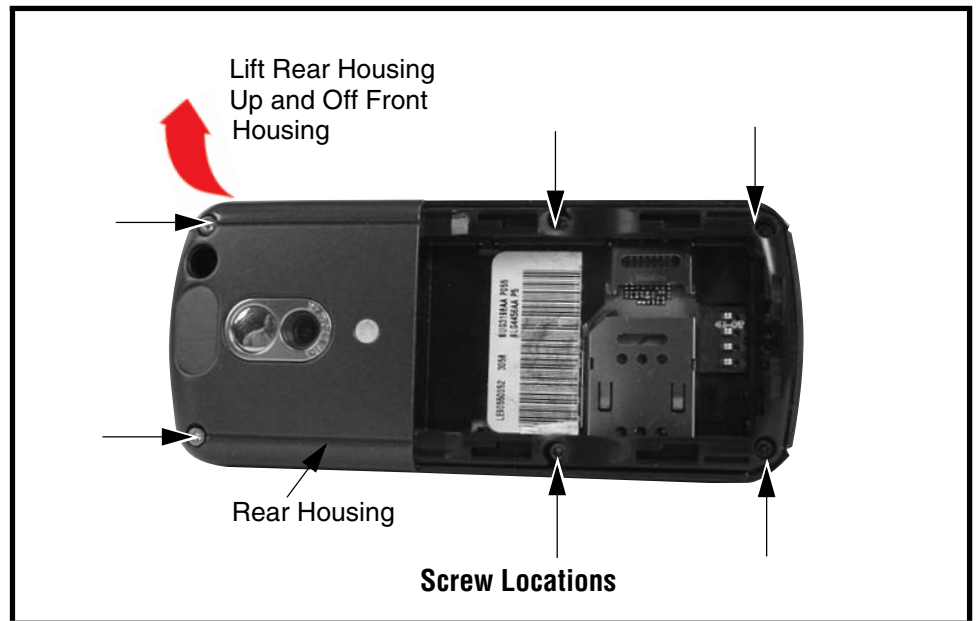

Figure 7. Removing and Replacing the Rear Housing
2. Using a Torx® driver with a T-6 bit, remove the 6 screws from the rear housing (see Figure 7).